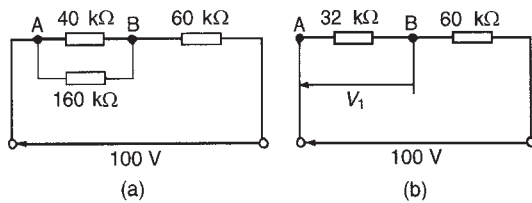

Figure 10.12
- (b) The resistance of a voltmeter having a $100\ \text{V}$ f.s.d. and sensitivity $1.6\ \text{k}\Omega/\text{V}$ is $100\ \text{V} \times 1.6\ \text{k}\Omega/\text{V} = 160\ \text{k}\Omega$. When the voltmeter is connected across the $40\ \text{k}\Omega$ resistor the circuit is as shown in Fig. 10.12(a) and the equivalent resistance of the parallel network is given by
The circuit is now effectively as shown in Fig. 10.12(b). Thus the voltage indicated on the voltmeter is